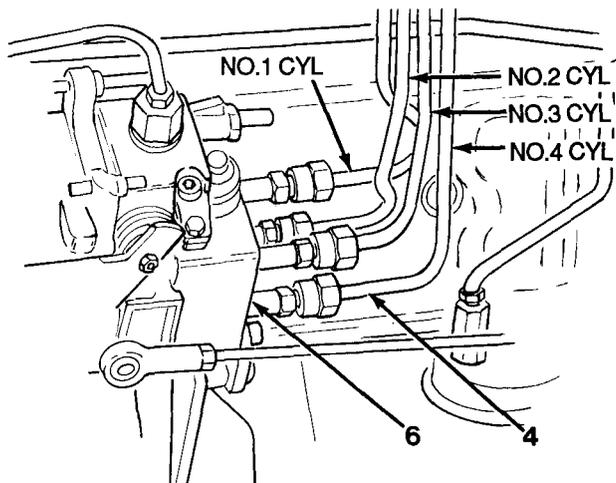

Figure 7-3
4. Remove No. 3 and No. 4 cylinder high-pressure tubes (4) from injection pump (6, Figure 7-3).
5. Remove No. 1 and No. 2 cylinder high-pressure tubes (4) from injection pump (6).